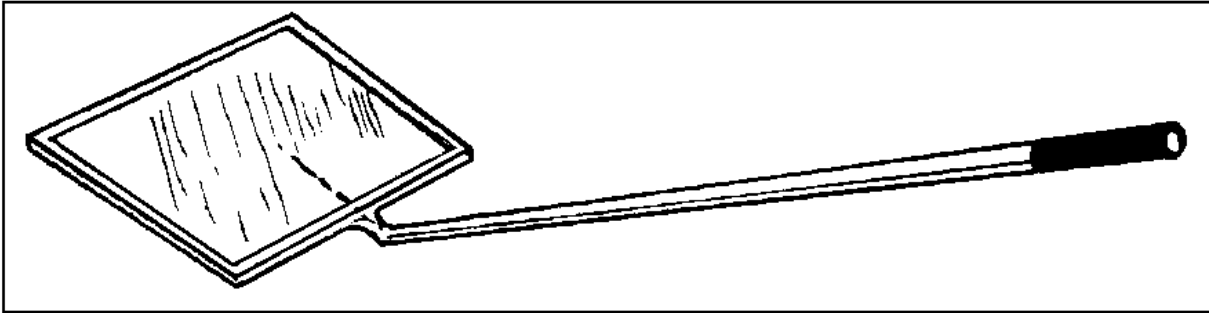

Figure 191-376-5122-1
5. Use a mirror device to search underneath the vehicle. Refer to Figure 191-376-5122-1.